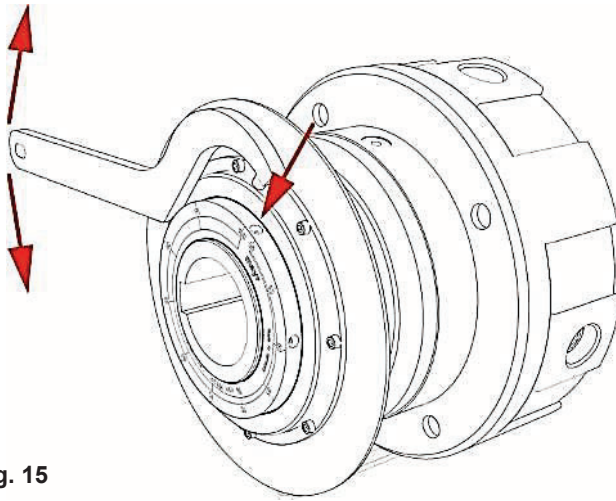

Fig. 15
3. Unscrew the set screws (18) in the adjusting nut (7)
4. Turn the adjusting nut (7) with the adjustment scale (Fig. 15) using a hook wrench until the required torque is set.